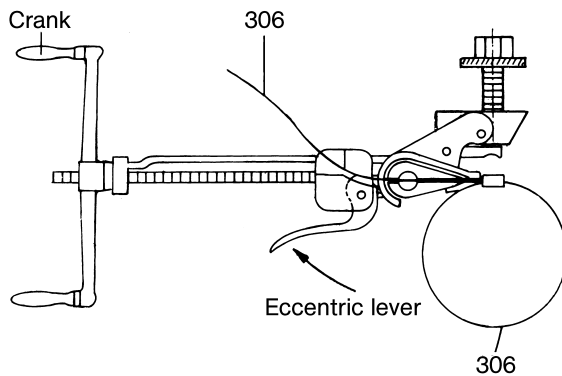

Figure 9. Clamping the clamping band by means of clamping tool Band-It and adapter J050.
- Introduce band end of the clamping band (306) to the clamping band lock into the clamping tool with adapter.
- Hold clamp end with the eccentric lever of the clamping tool, and clamp clamping band (306) by turning the crank (Figure 9).